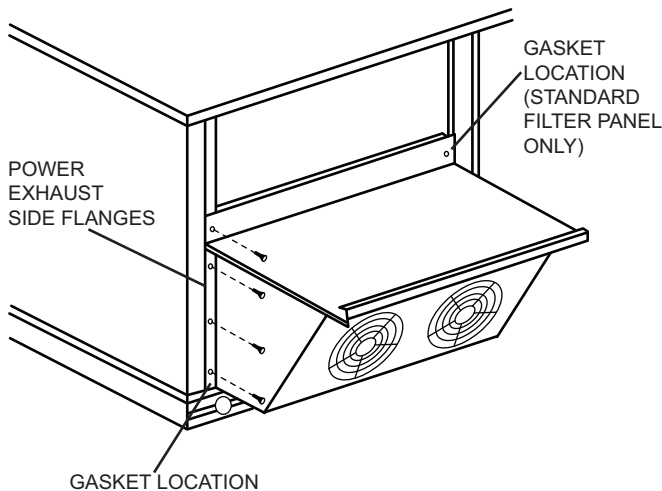

Fig. 14 — Power Exhaust Installation
2. Attach the sealing angle to the top of the power exhaust hood using the screws provided. Refer to Fig. 14 and 15. Note that the gasketing flange will be facing out.
6. Remove the hinged door and drill four (4) 11/64 in. holes where the marks are.